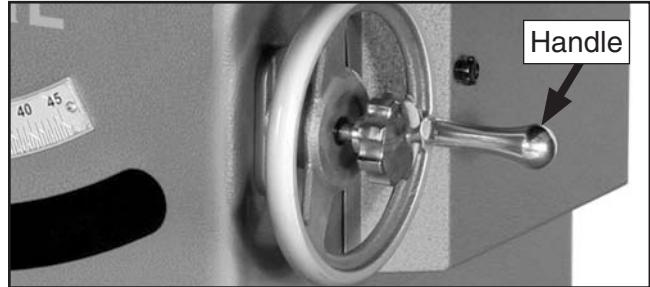

Figure 22. Handle installed on handwheel.
16. Thread the handwheel handle into the handwheel and tighten it (see **Figure 22**).